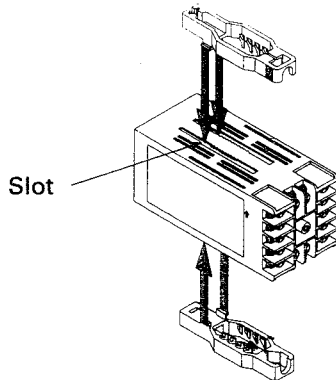

Fig. 1
- ① Make rectangular holes corresponding to the number of controllers to be mounted through the panel by referring to the panel cutout dimensions.
- ② Insert the controller into the panel from the panel front.
- ③ Insert the projections at the bottom of the bracket into the slots at the top of the controller [Fig. 1]